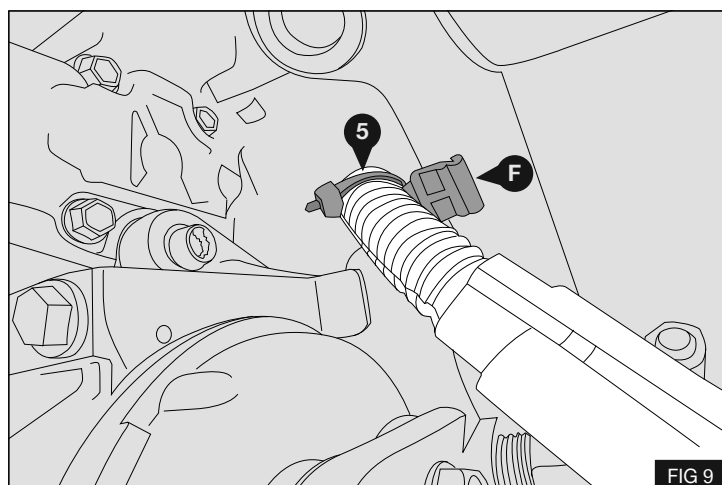

FIG 9
2. Secure original harness support (F) to the location shown in Fig 9. Position harness for maximum clearance and secure to support (F) using cable tie (5) - Fig 9